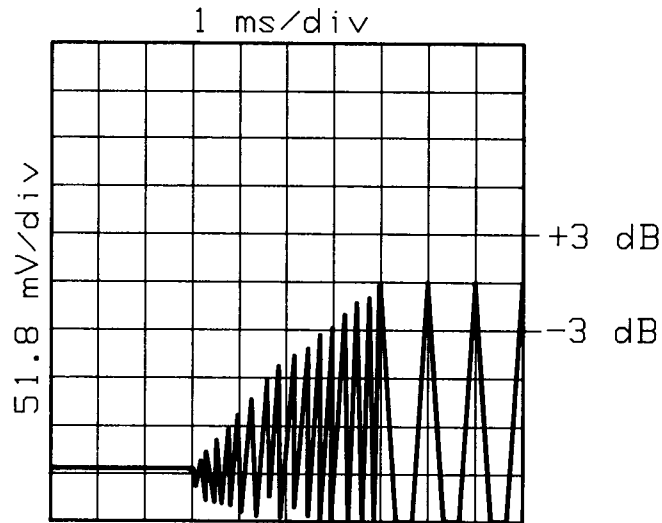

Figure 4-16. Amplitude Recovery Measurement Waveform
27. Press the digitizer (STORE M1) key on the oscilloscope and step the Signal Generator to the stop frequency with the **FREQ INCREMENT** key. The oscilloscope should digitize the switching waveform as the frequency changes. The waveform should now look like that shown in Figure 4-16.